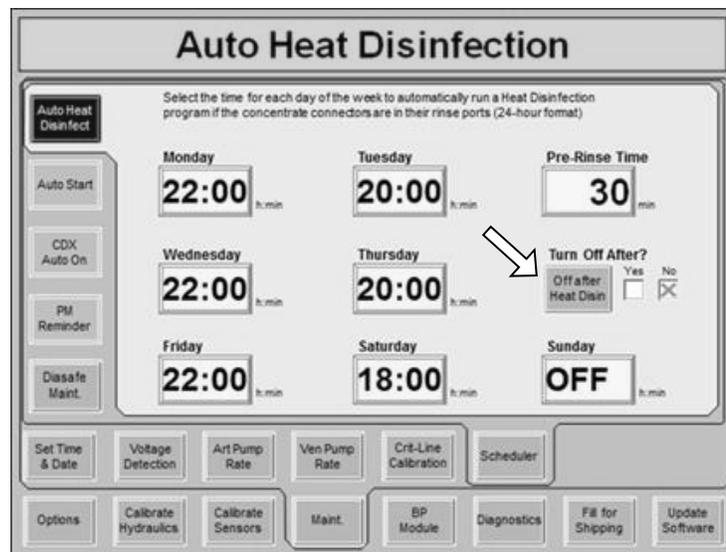

Figure 1
27. On the Auto Heat Disinfect screen locate the Off after Heat Disin button (see Figure 1).